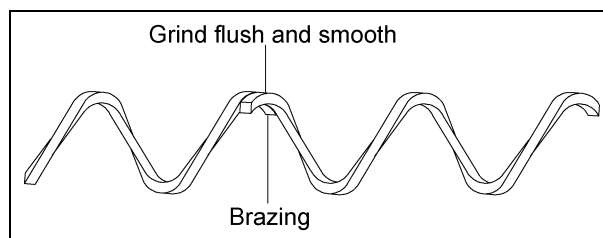

Figure 5X *Brazing the Auger*
The auger should be handled with great care. Do not install the auger until the kinks have been removed. The kink may be removed by straightening the auger. A kink may cause extensive wear on the system and premature part replacement. In the event that the kink cannot be removed by straightening, the kink must be cut-out and the auger welded. (See brazing recommendations in Figure 5X on Page 28.)
2. Position the auger in an angle iron and clasp it securely to align it for brazing. *(See Figure 5X.)*